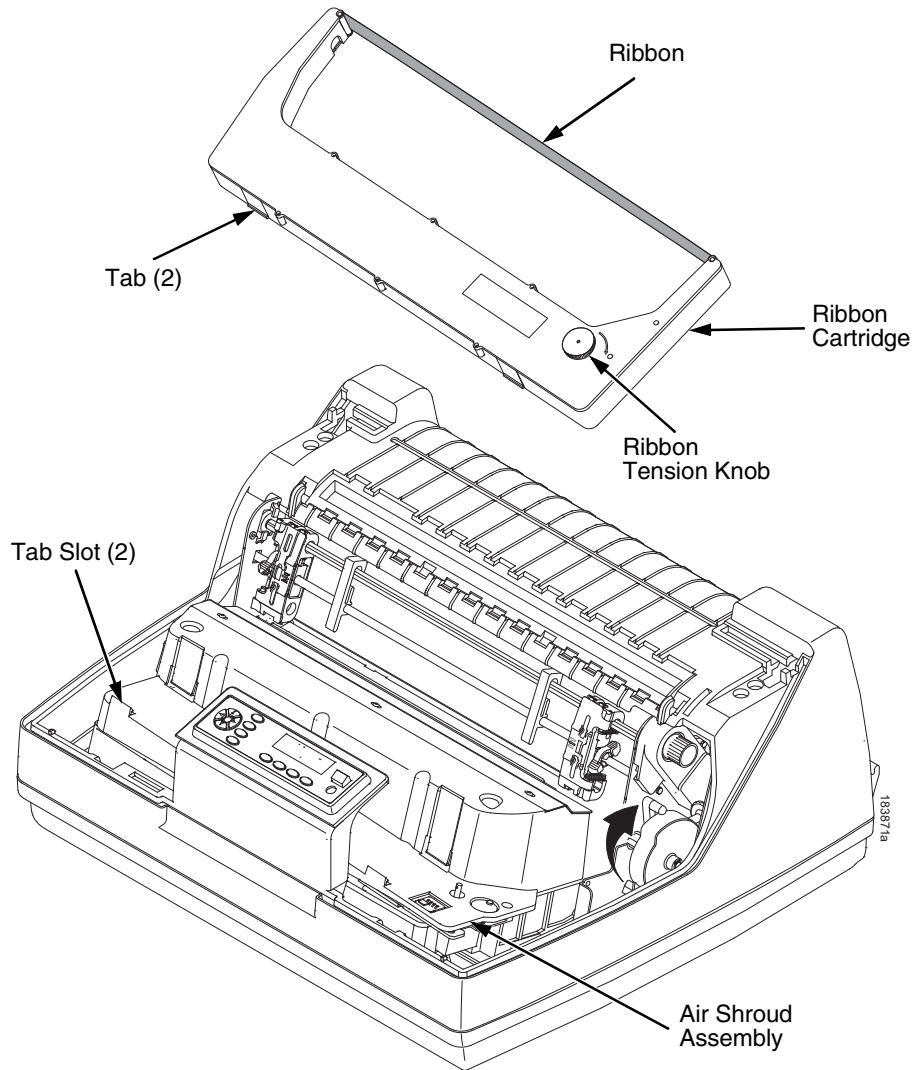

Figure 20. Installing the Ribbon Cartridge
6. Hold the cartridge at an angle, so that the rear side nearest you is lower than the side with the ribbon. Find the two tabs on the outside of the cartridge and place them into the corresponding slots on the air shroud assembly (see Figure 20).